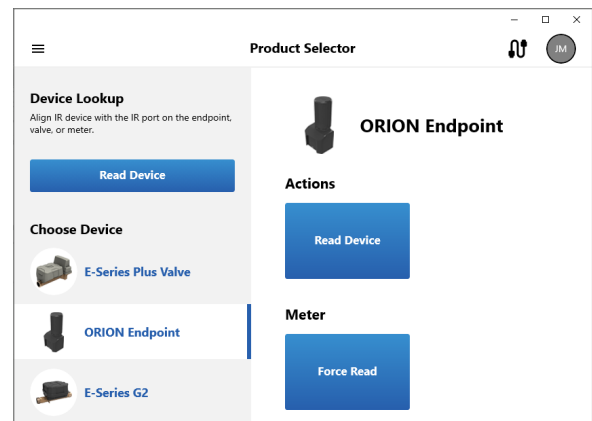

Figure 34: Force Read
2. With the IR device aligned to the endpoint IR port, select **Force Read** (Figure 34).